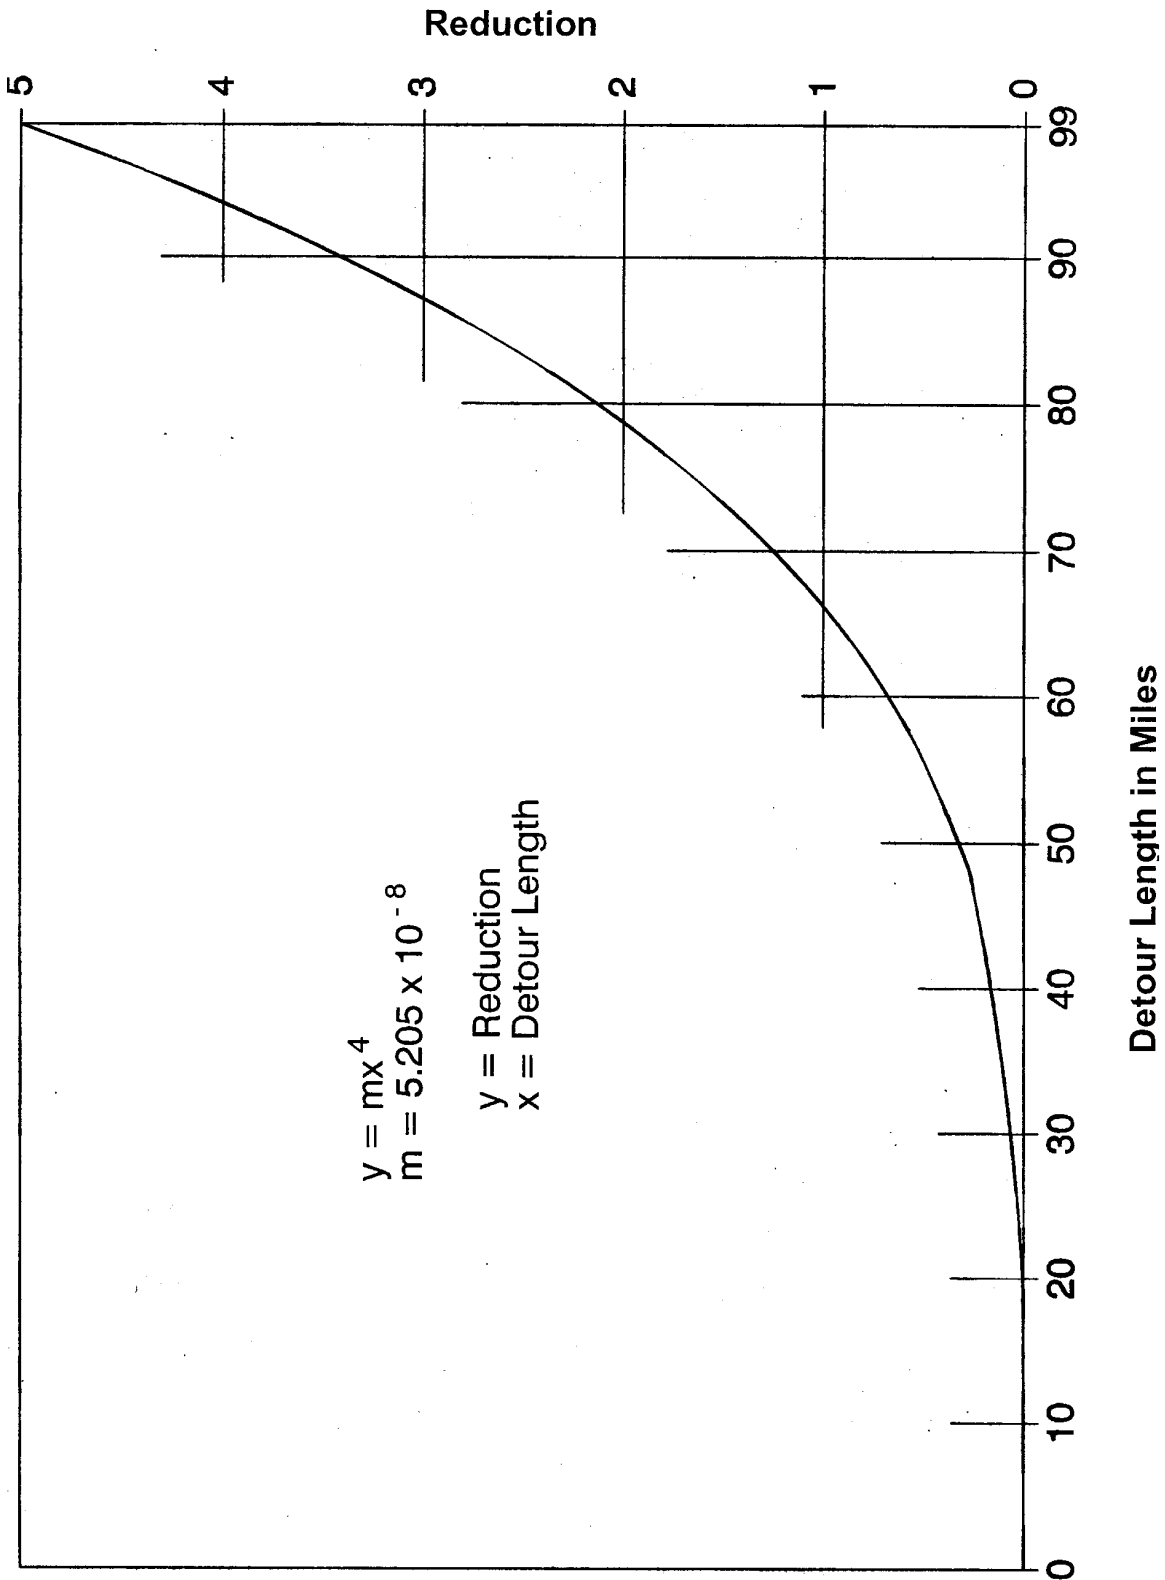

Figure 4. Special Reduction for Detour Length
- a. Detour Length Reduction, use Figure 4 or the following: